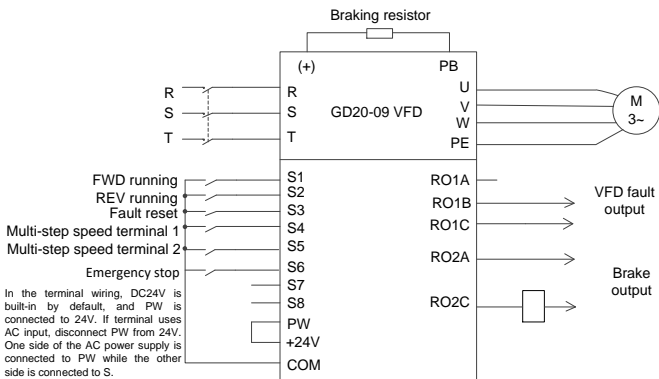

Figure 4-3 Wiring for horizontal moving
**Note:** If the wiring is performed according to Figure 4-3, most VFD parameters need no adjustment. If the onsite function terminals are inconsistent with the terminals shown in the figure, manually adjust the input and output terminal functions according to the actual wiring after selecting the horizontal moving application macro.